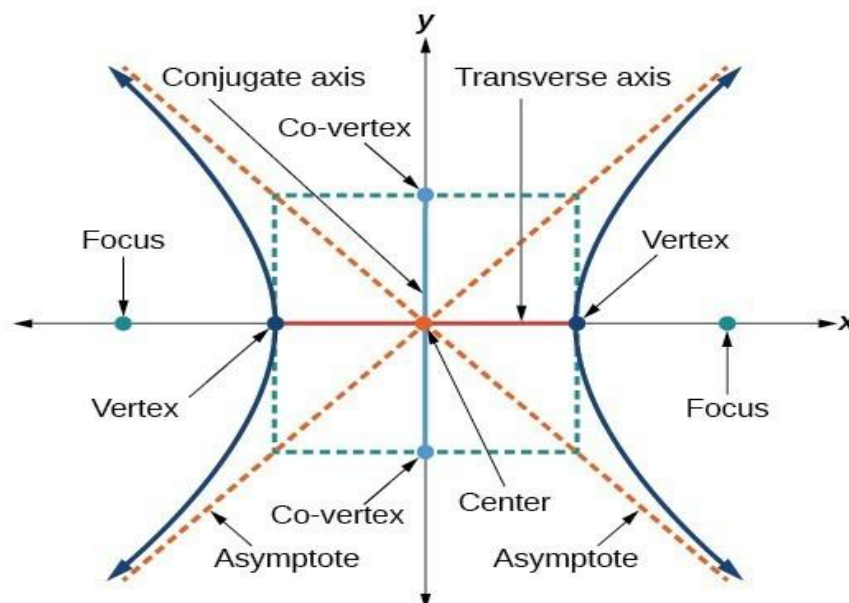

Fig. 2.7: Construction Method (Using the 'Foci' Method)
1. Fix two foci: Place two points (foci) on the drawing sheet (Fig. 2.7).